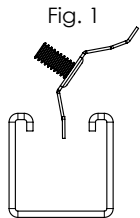

Fig. 1
1. Fig. 1: Insert double tab end of clip between edges of channel.